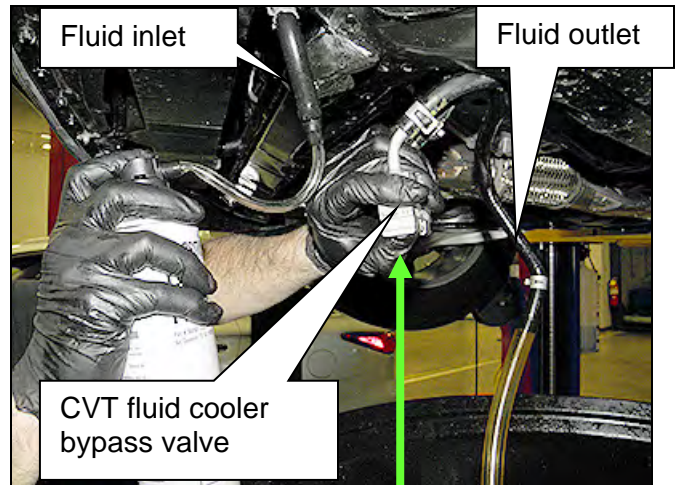

Figure 3E
8. Insert the “extension adapter hose”, from a can of Cooler Cleaner (Nissan P/N 999MP-AM006P), into one or the other of the disconnected CVT fluid cooler hoses (Figure 3E).
- Block the CVT fluid cooler bypass valve (Figure 3E) with thumb.
14. Now reverse the direction that the hoses are being flushed (Figure 3E) and repeat steps 8 through 12 twice (total of 3 times).